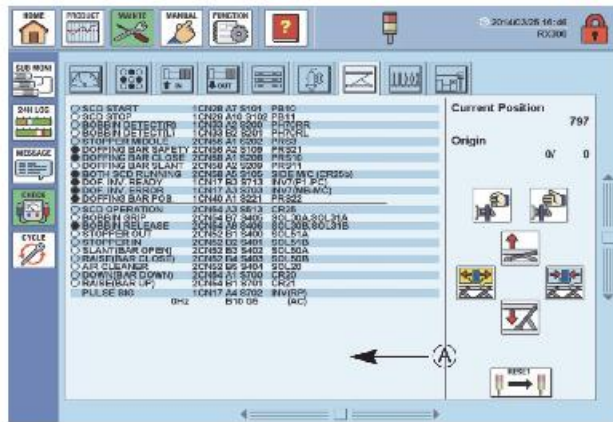

Fig. 9 IO monitor (Each device)
EXAMPLE: In the case of ④ in Fig. 9